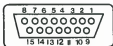

Figure 6-3. Cable Connector Pins
- 3) To check the switches you must connect the leads of the ohmmeter to the pin numbers given below. Without the button depressed it should show infinite resistance (open circuit). With the button depressed it should show less than 50K ohms resistance. Be sure to press the two fire buttons (left and right sides) separately to make sure they both work (see Figure 6-3 on page 6-6 for pin locations).
Cable Connector Pins are numbered as shown in Figure 6-3.